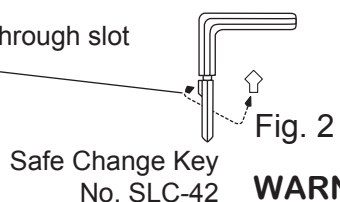

Fig. 3
3. Turn key one quarter turn to the LEFT (see Fig. 3). With the changing key in this position, turn the dial to the LEFT, stopping when the first number of the newly selected combination aligns with the changing index the FOURTH time.